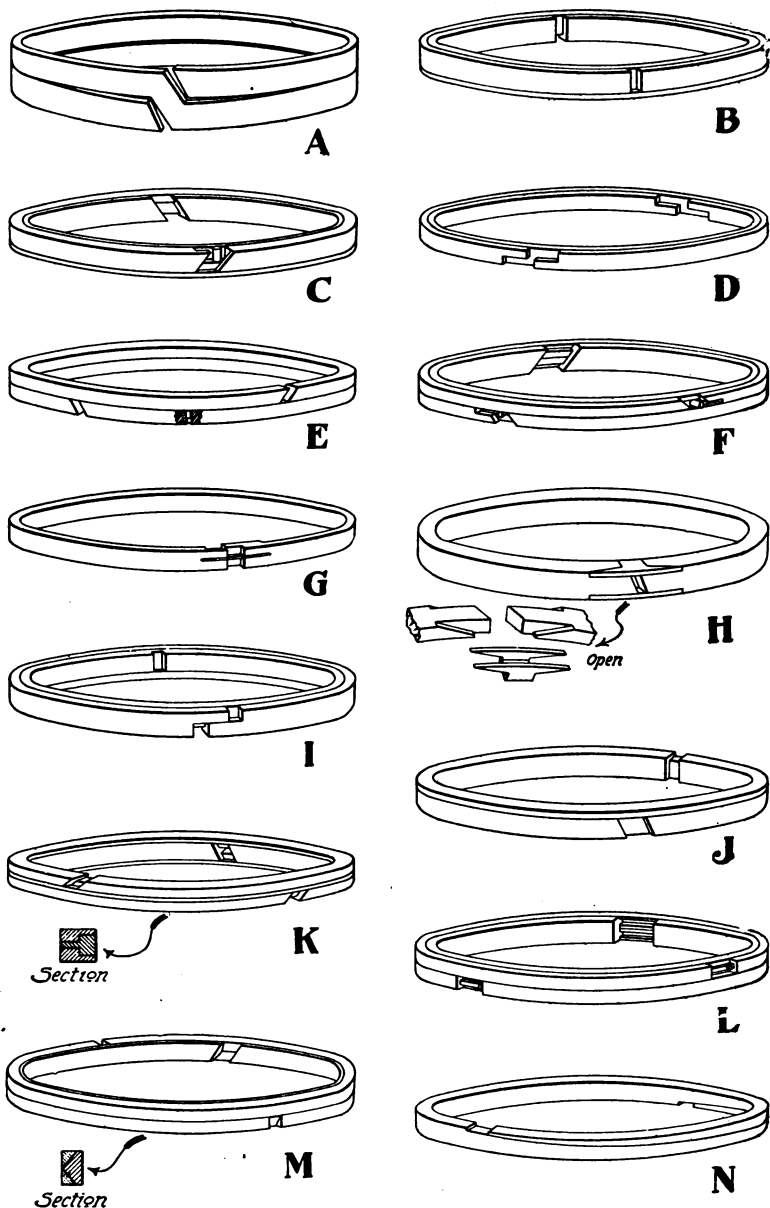

Fig. 41. New Types of Piston Rings Designed to Retain Compression and to Increase Power, at the Same Time Reducing Wall Friction
**Types of Piston Rings.** Where formerly three or four plain rings were used, each one filling a groove, many pistons are now equipped with multiple rings of various patented forms, for which many advantages are claimed. Some idea of the variety of these may be obtained from Fig. 41 which shows a number of different forms.